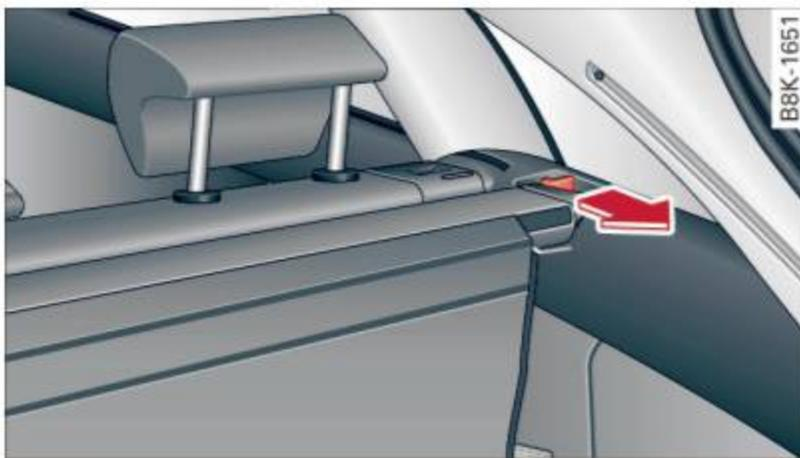

Fig. 75 Right front section of the luggage compartment: removing the luggage compartment cover
- ▶ Pull the lever in the direction of the arrow ⇒ fig. 75 while lifting the cover out.